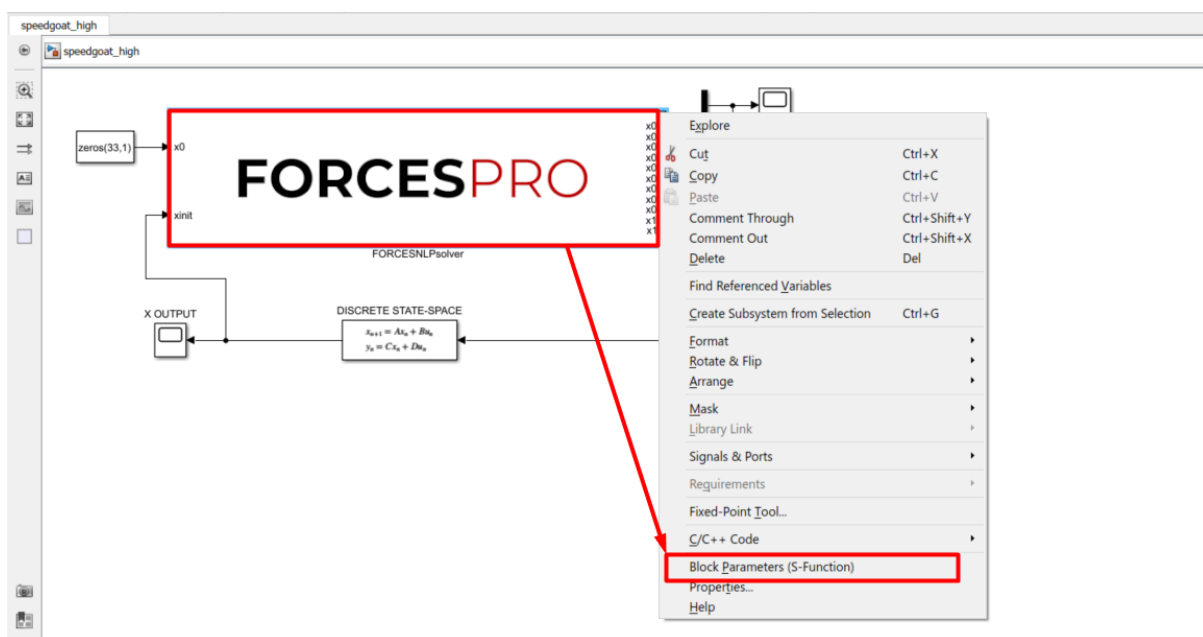

Figure 13.72: Open the FORCESPRO block's parameters.
13. (Figure 13.72) Access the FORCESPRO block’s parameters.